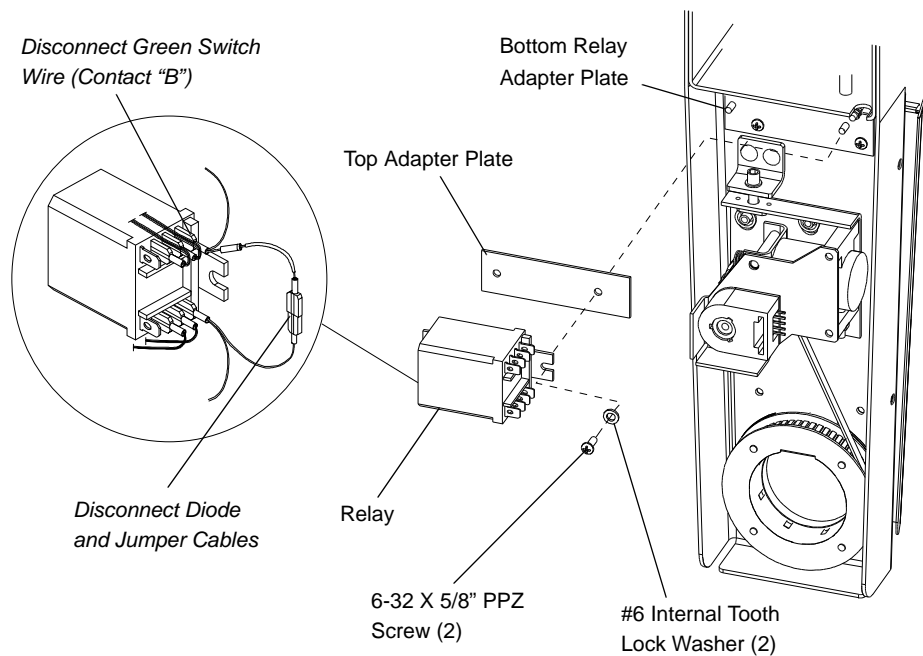

Figure 2-28: Removing Relay to Access Cables
- 1) At relay, using #2 Phillips screwdriver, remove two 6-32 X 5/8" PPZ screws and two #6 lock washers securing relay and top relay adapter plate to bottom relay adapter plate, and remove relay and top plate. **Figure 2-28.**